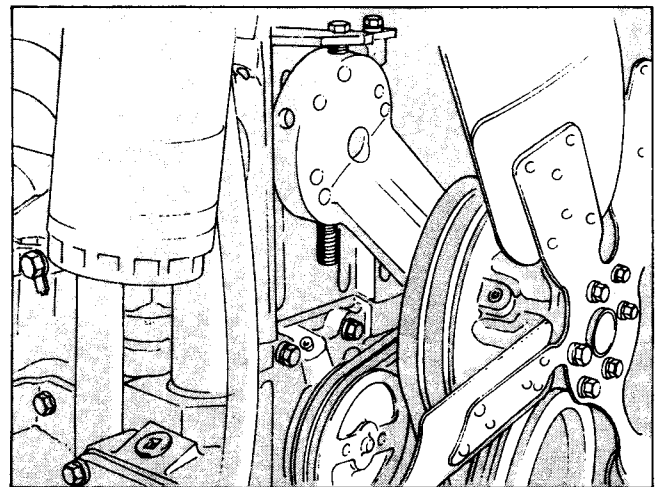

Fig. 2-6, (OM1016I). Fan hub installation, NTC-350 FFC
5. Tighten NH/NT Engines locknut to 400 to 450 ft-lbs [542 to 610 N•m]; then back off 1/2 turn. Tighten the four 1/2 inch capscREWS. Fig. 2-6, on NTC-350 FFC Engines to 75 to 85 ft-lbs [101 to 115 N•m].